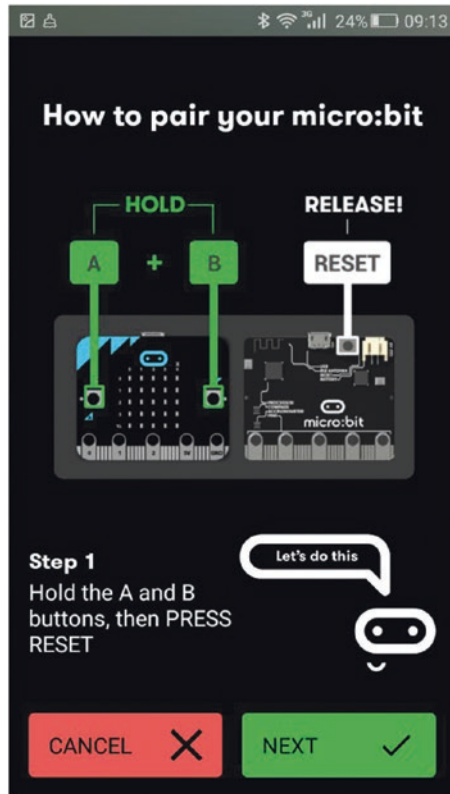

Figure B-4. Pairing step 1
5. The app prompts you to hold the built-in A and B buttons, then press and release the RESET button (see Figure B-4).